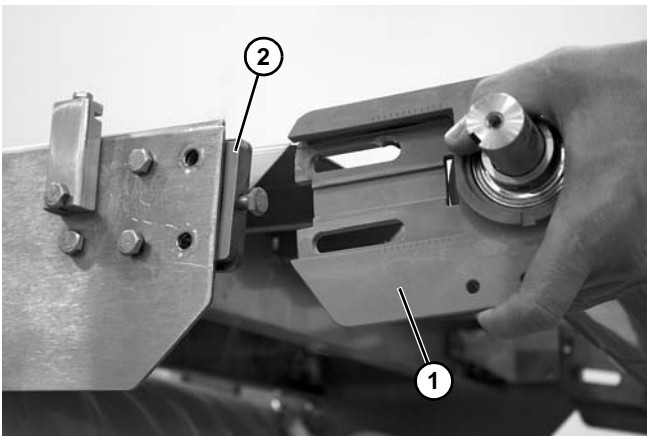

Figure 76
4. Slide the drive spindle assembly (**Figure 76, item 1**) off the drive tail blocks (**Figure 76, item 2**).